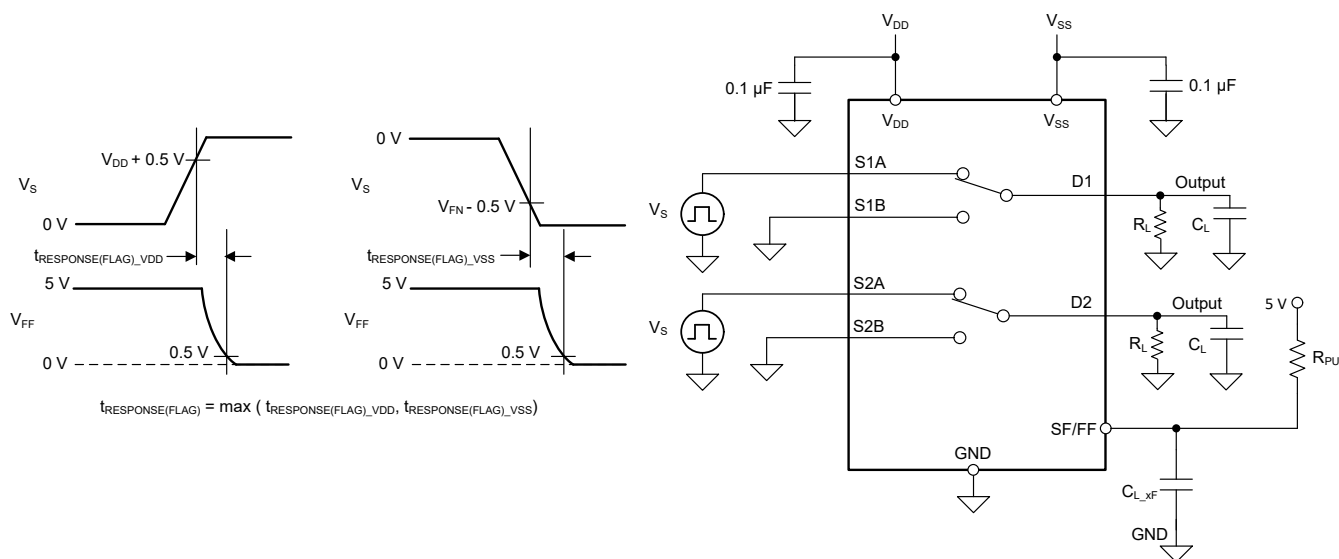

图 7-11. Fault Flag Response Time Measurement Setup
Fault flag response time ($t_{RESPONSE(FLAG)}$) measures the delay between the source voltage exceeding the fault supply voltage (V_{DD} or V_{SS}) by 0.5 V and the general fault flag (FF) pin to go below 10% of its original value. 图 7-11 shows the setup used to measure $t_{RESPONSE(FLAG)}$.